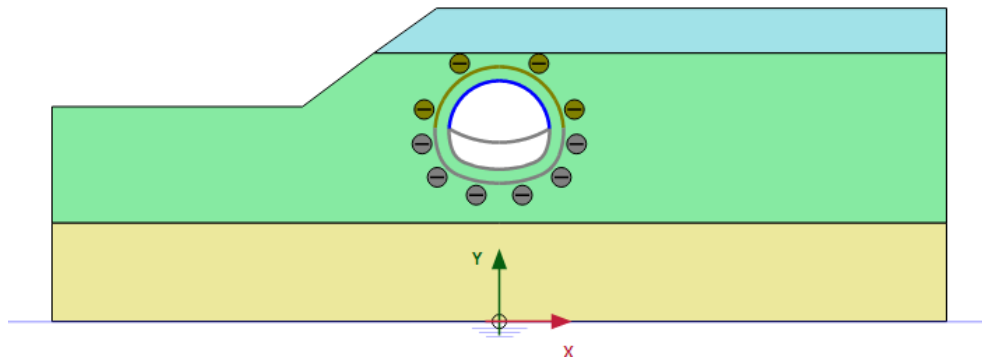

Figure 74: Configuration of Phase 3
4. The model for phase 3 can be seen in Figure 74 (on page 100).